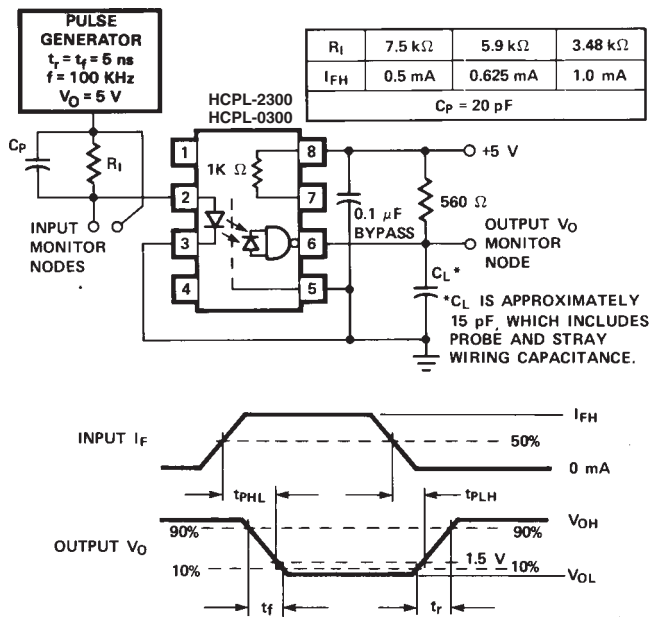

Figure 8. Test Circuit for t_{pHL} , t_{pLH} , t_r , and t_f .
8. C_P is the peaking capacitance. Refer to test circuit in Figure 8.